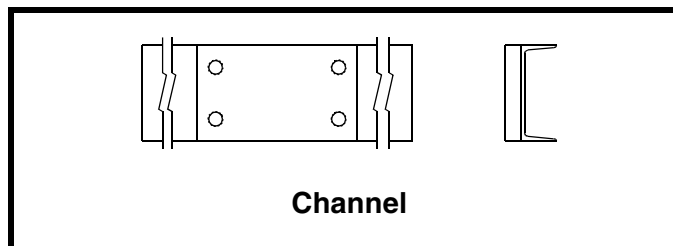

Figure 2. Channel Mount (Top and Side Views)
2. See Figure 2. If using Martin® Channel Mount to mount impactor onto structure, do the following:
4. Install impactor onto Channel Mount (see Figure 2) as follows: